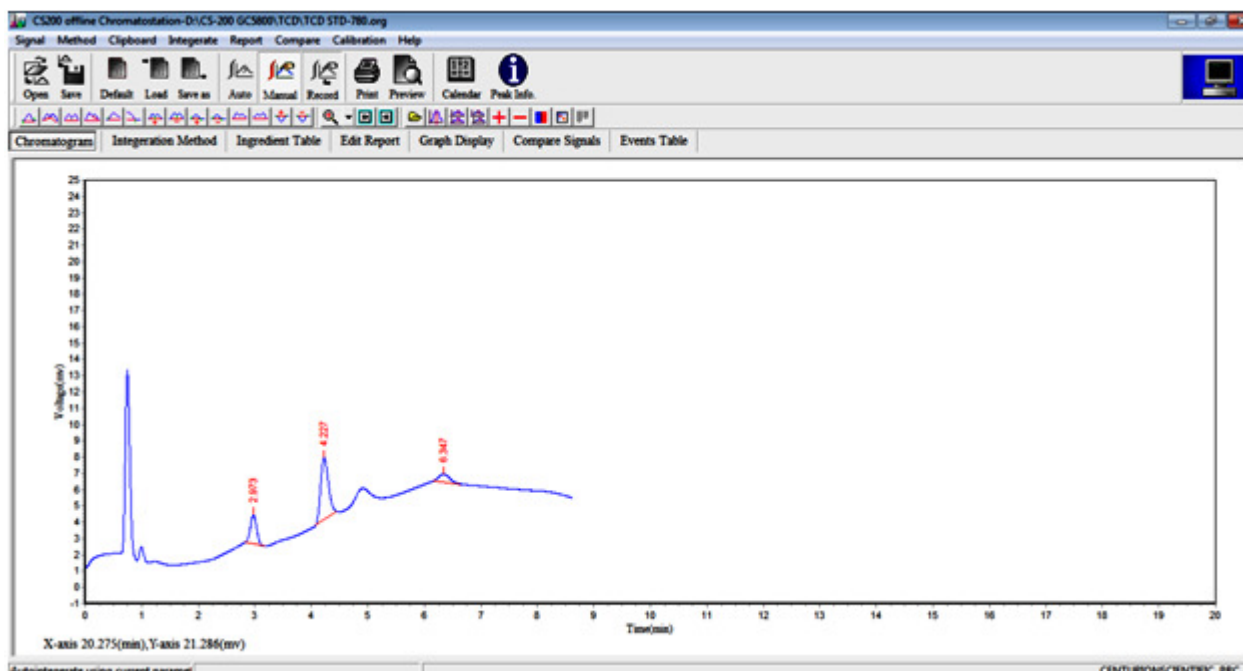

Figure D-100. A selected Chromatogram is displayed
4. The selected Chromatogram will be loaded and displayed as shown in Figure D-100.